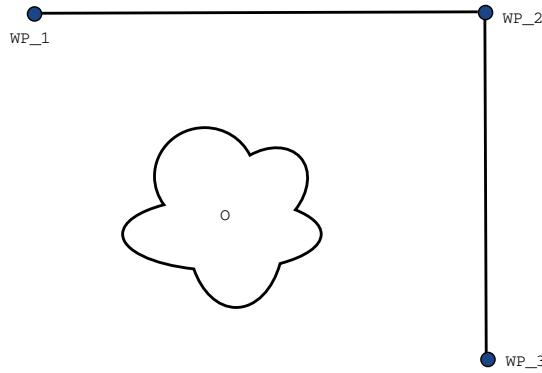

Figure 15.2: WP_1: initial position, WP_2: via point, WP_3: pick up position, O: obstacle.
Example Consider a pick and place application as an example (see figure 15.2), where the robot is currently at Waypoint 1 (WP_1), and it needs to pick up an object at Waypoint 3 (WP_3). To avoid collisions with the object and other obstacles (0), the robot must approach WP_3 in the direction coming from Waypoint 2 (WP_2). So three waypoints are introduced to create a path that fulfills the requirements.